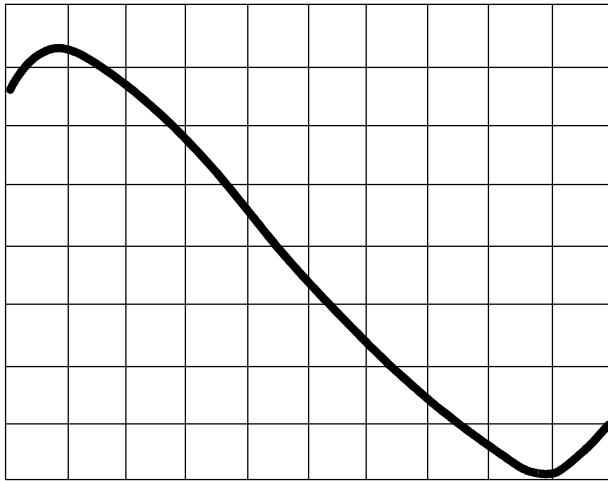

Figure 4-10. Typical Narrow Band FM Discriminator Response
14. Select an IF bandwidth less than or equal to 50 kHz. Adjust L9 and L10 for best linearity and a zero crossing at 21.4 MHz. **Figure 4-10** illustrates a typical narrow band sweep response.